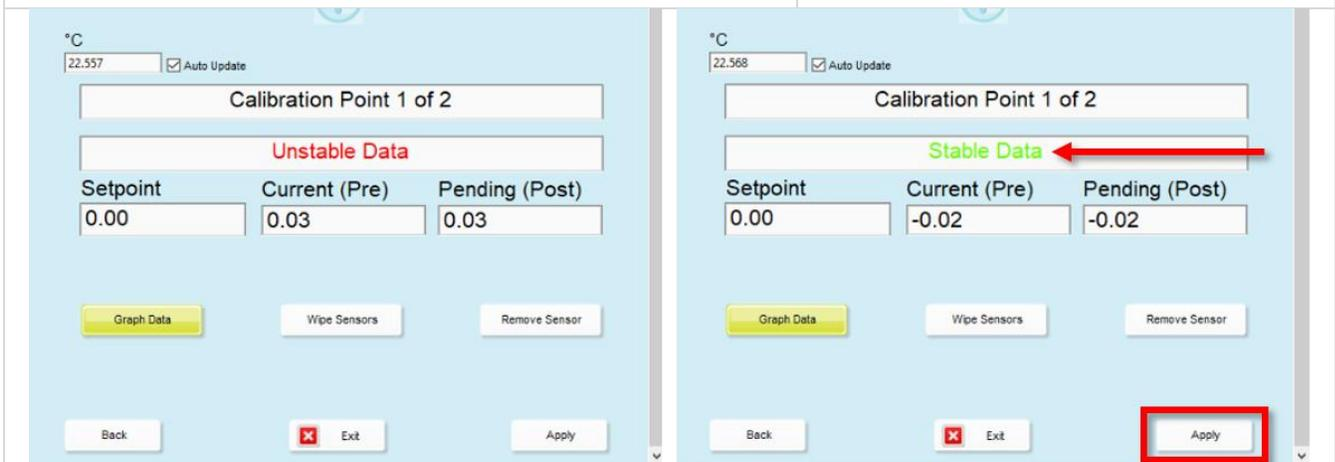

Figure 103. Click "Apply" when it states "Stable Data" in the Device Calibration Window
**STEP 4** | When the data are stable, click **“Apply”** to accept this calibration point (Figure 103).